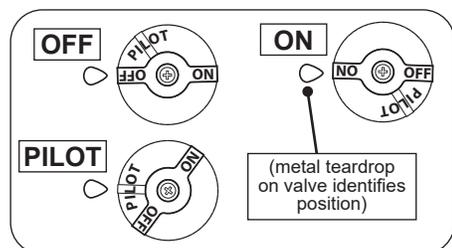
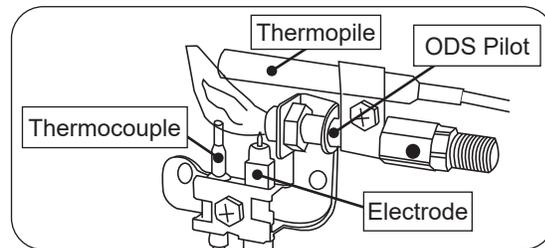

Fig. 27-1 Gas control knob
Fig. 27-3 ODS Pilot assembly detail
2. Locate the valve on the unit. Push in the gas control knob slightly and turn clockwise  to **OFF** (Fig. 27-1).
**Wait five (5) minutes to clear out any gas. Then smell for gas, including near the floor. If you smell gas, STOP! Follow "B" in the safety information above. If you do not smell gas, go to the next step.**
3. Locate the pilot assembly on the burner system (see Fig. 27-3).
4. Turn the control knob counterclockwise  to **PILOT**. Push the knob **firmly and fully** in and hold. Push the piezo igniter button several times until the pilot lights. Continue to hold the knob in for about one (1) minute after the pilot is lit. Release the knob and it will pop back out. The pilot will remain lit. See Fig. 27-1 and 27-3. If it goes out, repeat steps 2-4.
1. Ensure the pilot is burning. Turn the control knob counterclockwise  to **ON** (see Fig. 27-1).
Turn the flame adjustment knob counterclockwise  toward **LO** to decrease the flame height. Turn clockwise  toward **ON** to increase the flame height. See Fig. 27-3.
**To shut down the burner and pilot (total shutdown),** flip the toggle switch to **OFF**, and push in the control knob slightly and turn clockwise  to **OFF** (see Fig. 27-1 & 2).